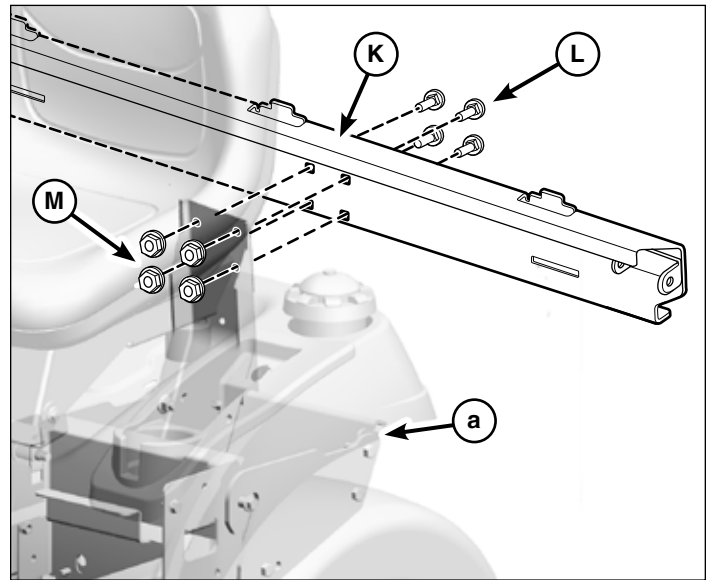

Figure 7
1. Attach the cross support (K, Figure 7) onto the hitch assembly (a) with the carriage bolts (L) and the whiz lock nuts (M).